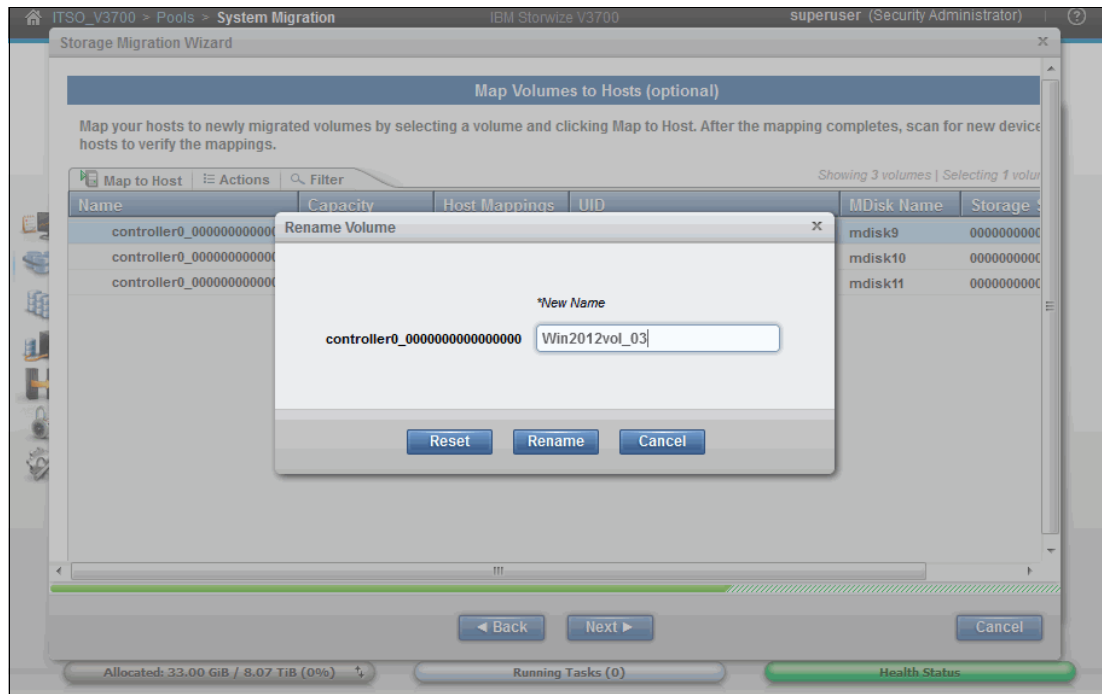

Figure 6-51 Renaming an image mode volume
- Use the information collected in 6.2.5, “Recording migration information” on page 252 to rename the volumes to their original names in the external IBM DS3200 Storage array, as shown in Figure 6-51.